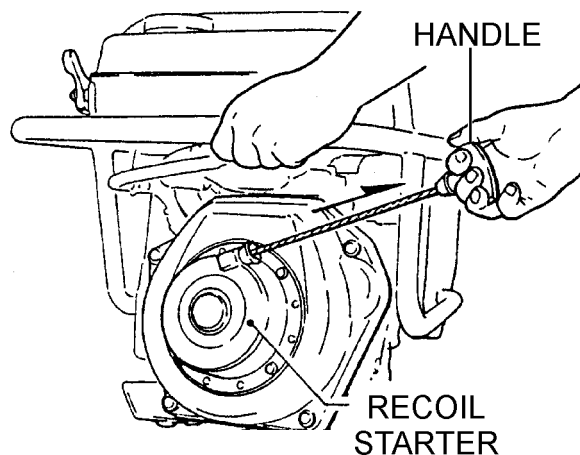

Figure 7. Recoil Starter
3. Grip the recoil starter handle (Figure 7) and pull it until you feel a slight resistance.